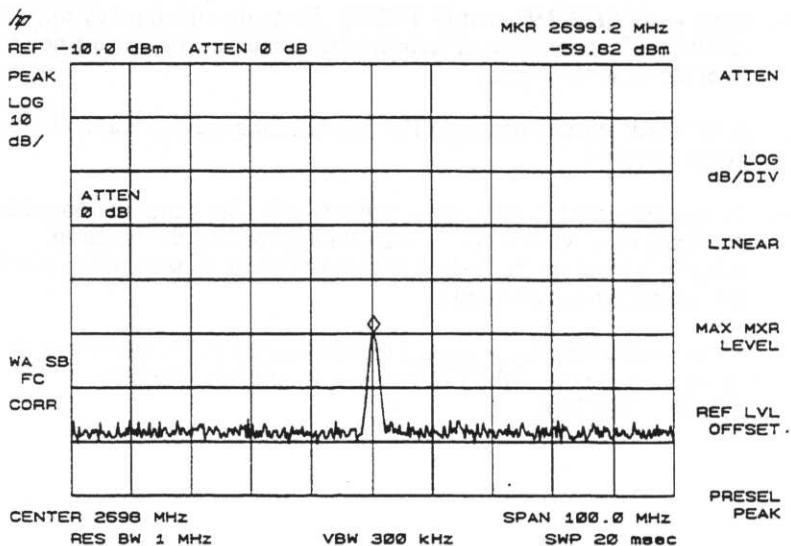

Figure 2-10
2. Press **SIGNAL TRACK** and the signal is moves to the center frequency. Press **SPAN, 1 0 0 MHz** and **SIGNAL TRACK** to turn off the tracking function. (See Figure 2-10.)